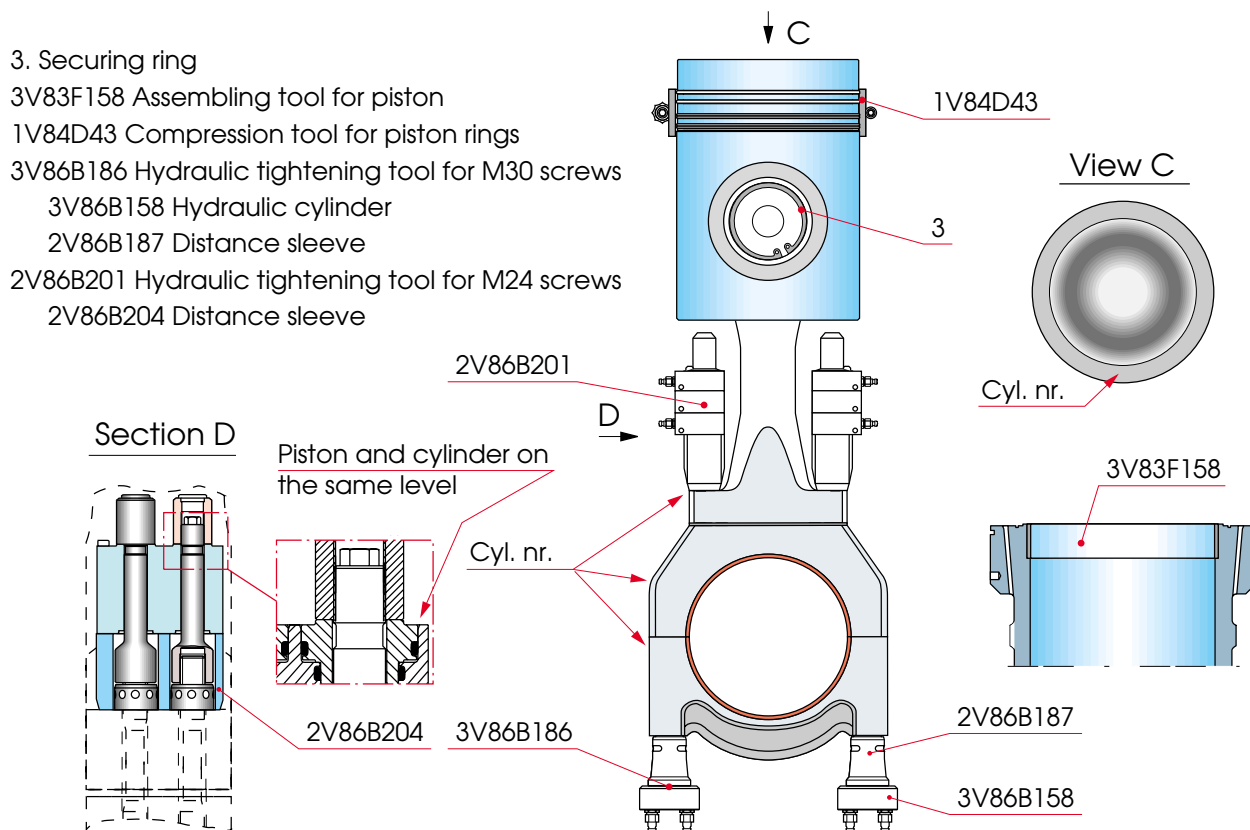

Fig 11-7
- 7** Lift the hydraulic cylinders into position and mount the strap nuts, see Fig 11-7.
9 **Open the release valve** and tighten the tool assembly to expel possible oil until the piston and cylinder are on the same level, see Fig 11-7. **This is very important as the effective stroke of the pistons is limited and due to that there is a great risk for insufficient tightening of the nuts, which may cause serious engine damage.** Open the nuts about half a revolution (180°).
- 5** Lift the hydraulic cylinders into position and mount the strap nuts, see Fig 11-7.
- 7** Open the release valve and tighten the tool assembly to expel possible oil until the piston and cylinder are on the same level, see Fig 11-7. **This is very important as the effective stroke of the pistons is limited and due to that there is a great risk for insufficient tightening of the nuts, which may cause serious engine damage.** Open the nuts about half a revolution (180°).
1 Lubricate the gudgeon pin, and mount it from the same side from where it was removed, with the end marked with the drawing number in the same direction. The cylinder number is stamped on the piston crown and connecting rod, Fig 11-7. When changing the piston, mark the new piston with the same cylinder number in the same place as on the replaced one.